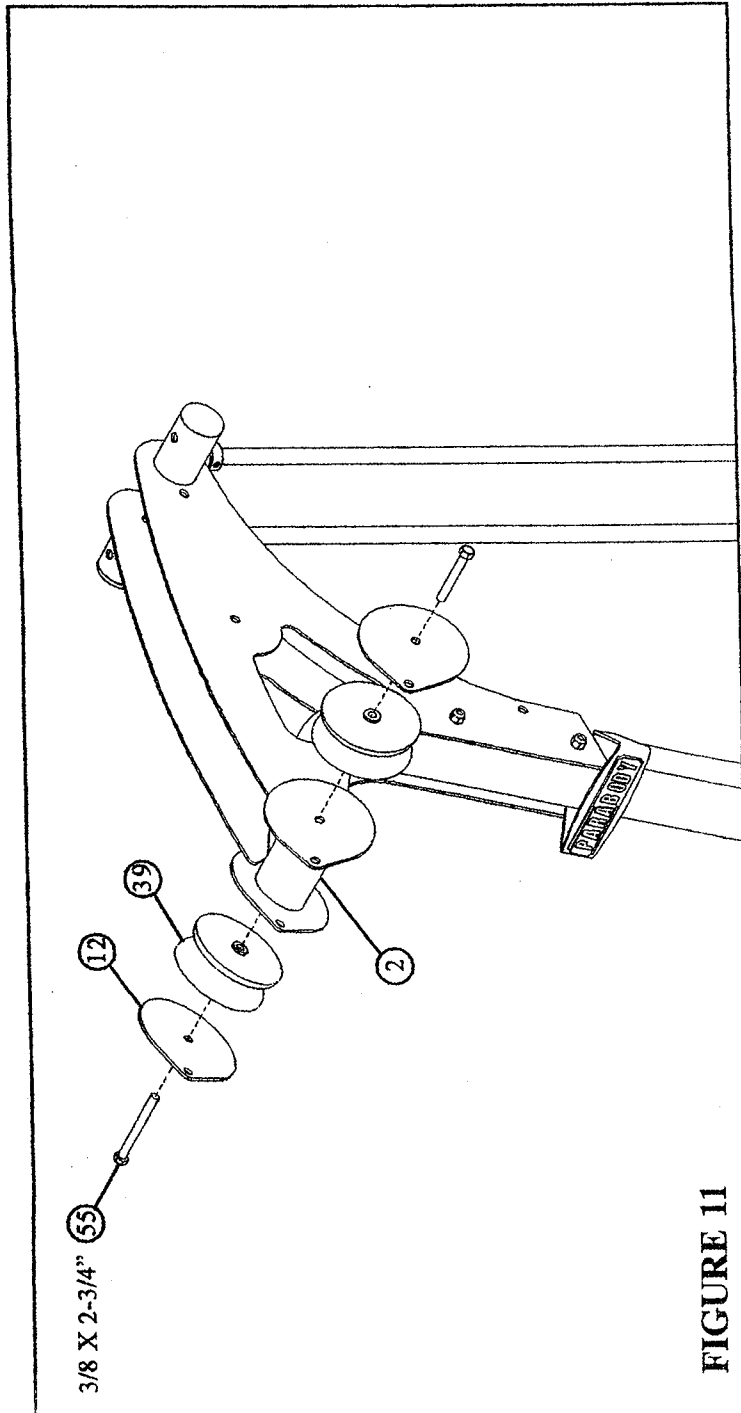

FIGURE 11
Assemble two V-PULLEY PLATES (12) and two 4-1/2" V-GROOVE PULLEYS (39) to the UPRIGHT (2) using two 3/8 X 2-3/4" BOLTS (55). See FIGURE 11.